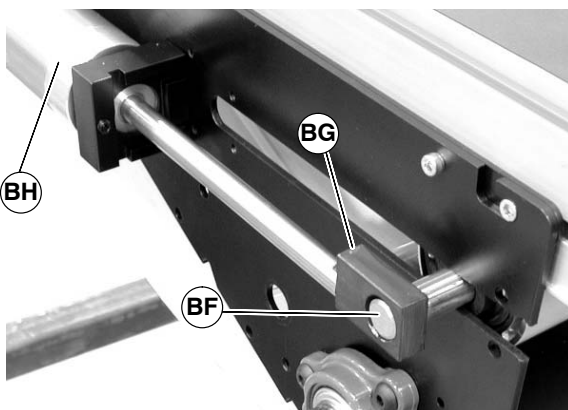

Figure 84
6. Push shaft (BF of Figure 84) through block (BG) on opposite side of center drive, slide block toward air cylinder (BH).